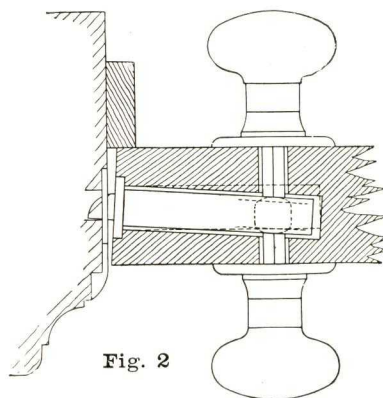

Fig. 2
**HUBS—BRASS COMPENSATING**—Our compensating hub is of the brass ball construction, which will allow compensation in any direction. The use of this type of compensating hub is a simple and effective means of relieving any cramping or binding of the knobs when the lock case is not applied in a line exactly parallel with the face of the door stile. It also permits the use of a flat front lock to a door having its edge slightly bevelled. See illustration (Fig. 2).